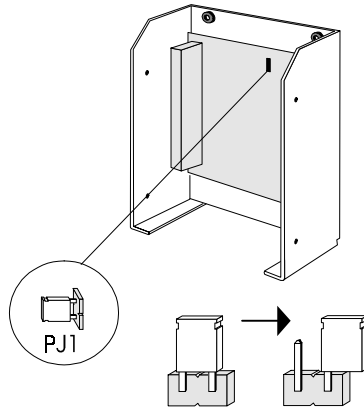

Figure 3.
- Move the jumper as shown in Figure 3.